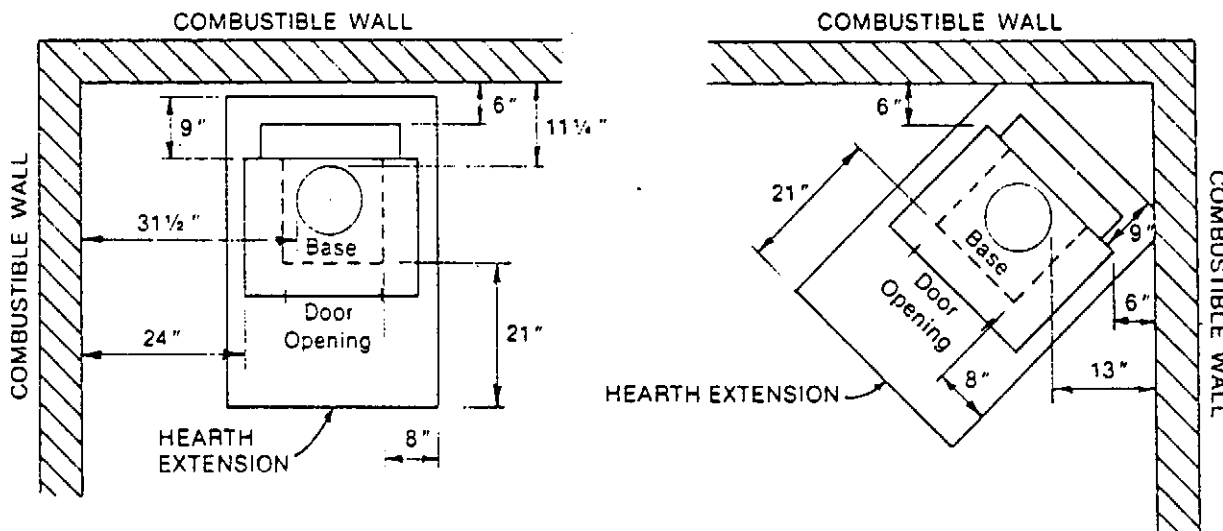

FIG. 4
The floor area below the stove must be protected with a hearth extension of $\frac{1}{2}$ " minimum thickness non-combustible material, extending at least 8" beyond each side and 21" in front of the stove base. See figure 4.
1. Set hearth and stove in location for marking holes in accordance with the dimensions listed on Fig. 4 and 6.